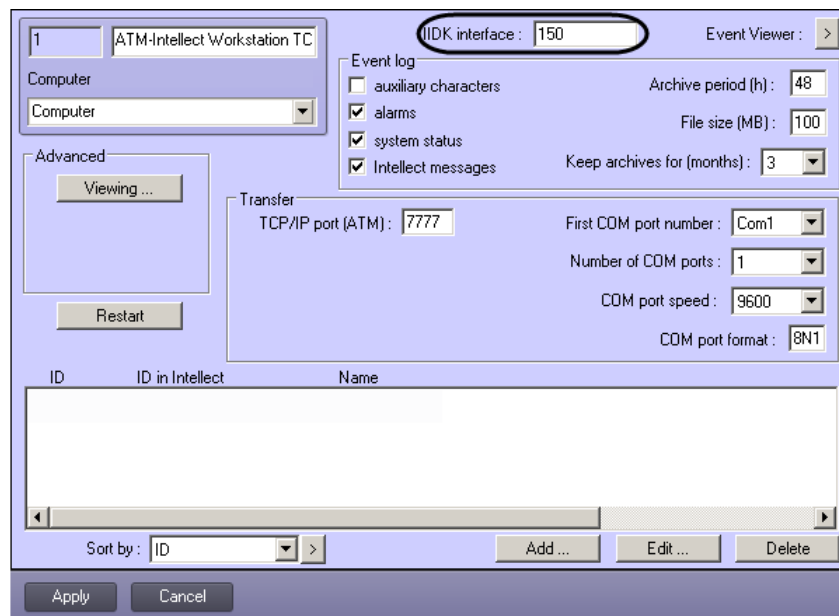

Fig. 7.2—3 ATM-Intellect Workstation TC object setting panel
- In the **IIDK interface** field enter the identification number of the **IIDK interface** object created on step 2 (see Fig. 7.2—3).